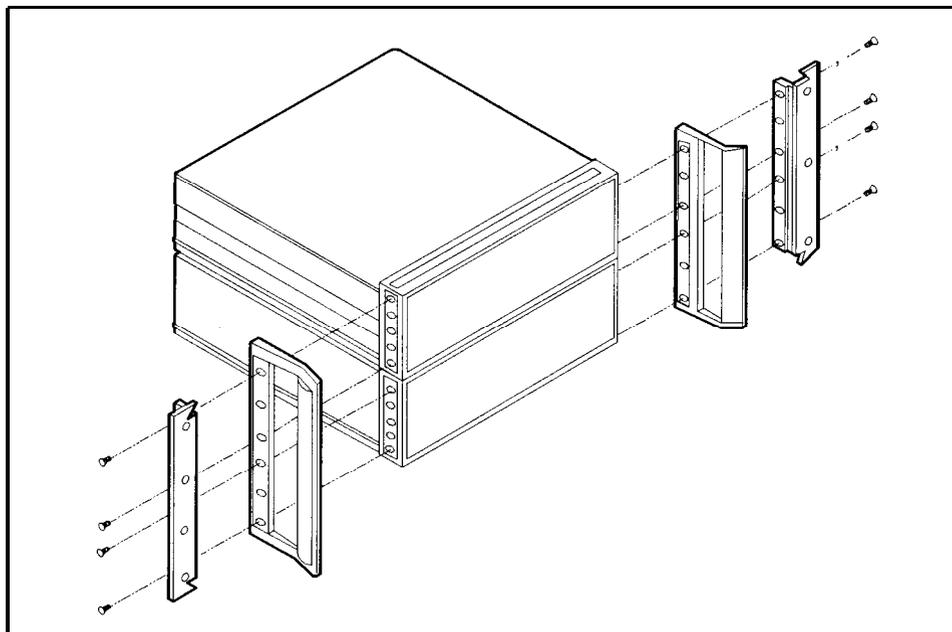

Figure 2-10. Attaching the Rack Handles and Flanges
9. Attach the 10-1/2 inch handles with flanges as shown in Figure 2-10.